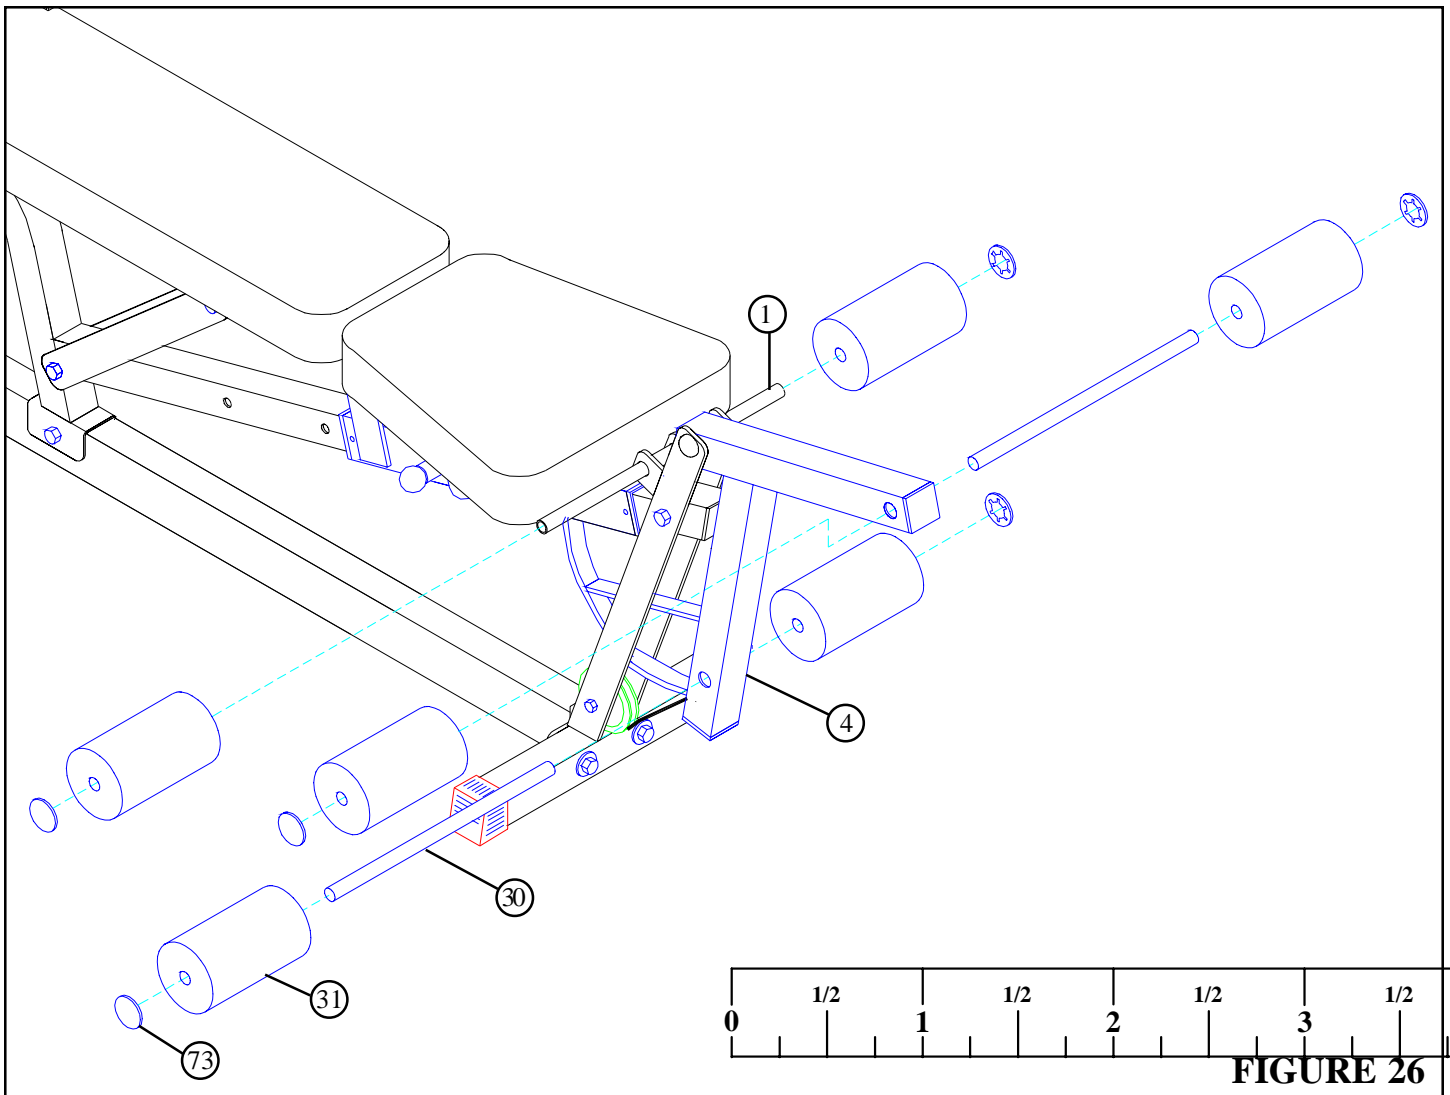

FIGURE 26
- Assemble four ROLLER PADS (31) to the LEG CURL/EXTENSION (4) as shown on FIGURE 26 using two 16" TUBES (30) and four STARLOCK COLLARS (73).
- Assemble two ROLLER PAD (31) to the tubes on FRAME SUPPORT (1) using two STARLOCK COLLARS (73) as shown in FIGURE 26..